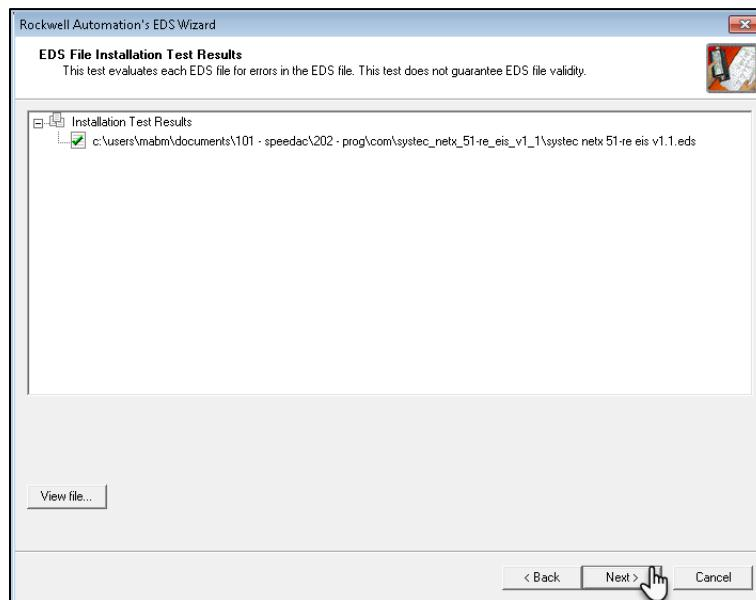

Figure 13: EDS File Test Results Screen
- Continue the setup by clicking the **Next** button on the next screen and make sure that there is a green checkmark on the box the EDS file as per **Figure 13**.